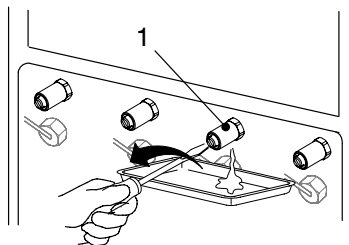

Fig. 3-14
2. Place a container under the air relief valves (1, Fig. 3-14) to be opened.